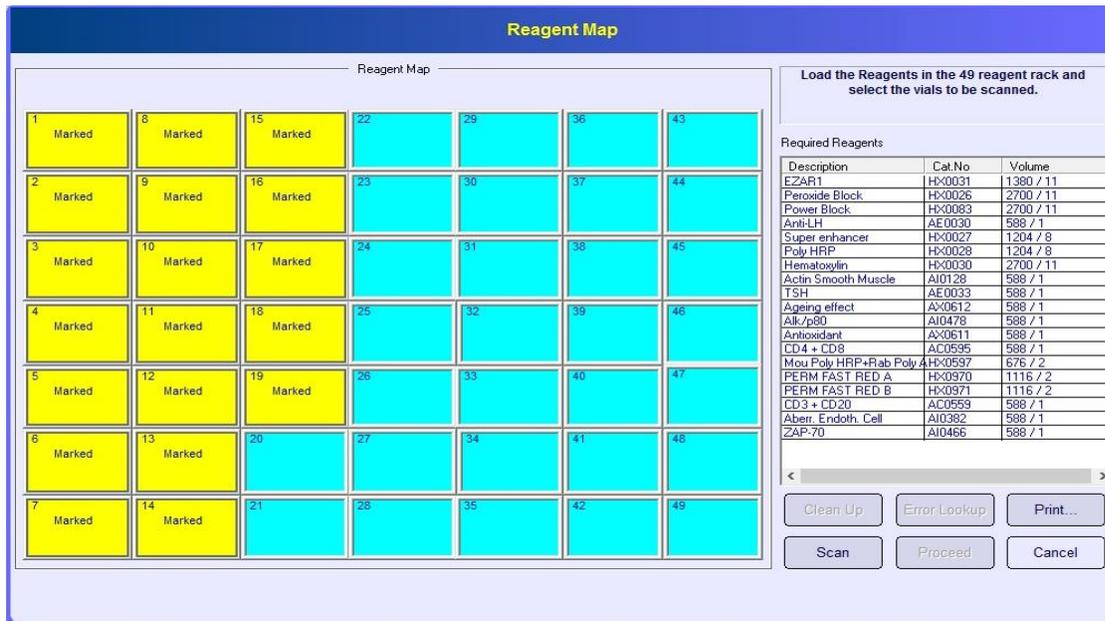

Figure: 39<Reagent Map>
2. The **<Reagent Map>** window (**Fig.39**) will appear with a list of **required reagents** in the panel on the right. Load the reagent racks with the